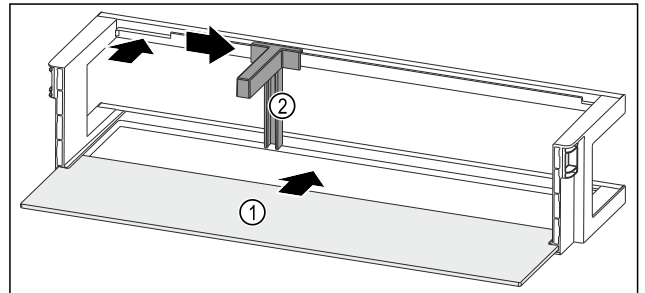

Fig. 51 Door rack with shelf
- Push the shelf Fig. 51 (1) into the side recesses.
- Insert the bottle holder Fig. 51 (2) in the recess.
- Push the bottle holder Fig. 51 (2) to the desired position to the side.